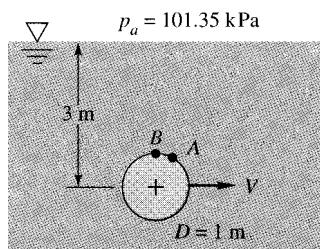

Fig. P8.100
**8.100** A 1-m-diameter sphere is being towed at speed  $V$  in fresh water at 20°C as shown in Fig. P8.100. Assuming inviscid theory with an undistorted free surface, estimate the speed  $V$  in m/s at which cavitation will first appear on the sphere surface. Where will cavitation appear? For this condition, what will be the pressure at point A on the sphere which is 45° up from the direction of travel?